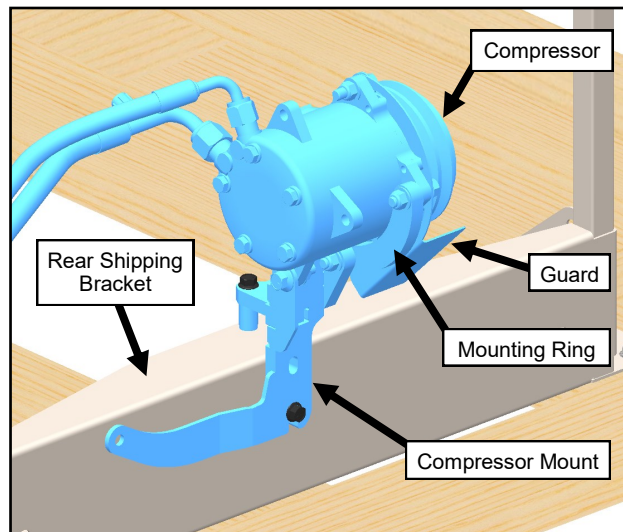

Fig. 1.31 (Remove Compressor Mount)
- 1.31** Remove compressor (with guard and mounting ring) from the compressor mount and keep the three 3/8" screws and two 3/8" nuts with compressor. Support the compressor using a bungee cord or rope. Do not ever use the hoses to support the compressor or damage may occur. Next, remove compressor mount from rear shipping bracket and discard the two 5/16" screws and two 5/16" nuts. See Figure 1.31.